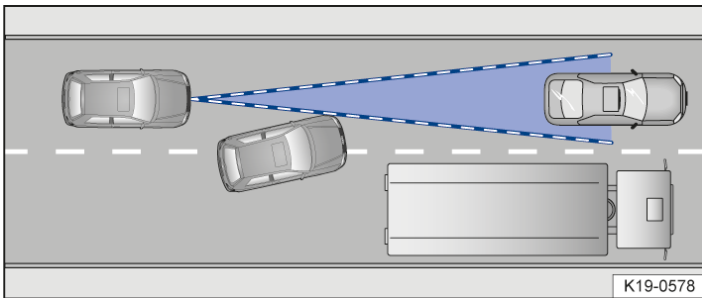

Fig. 4 Vehicle changes lane.
- Vehicles that change into your lane directly in front of your vehicle → Fig. 4.